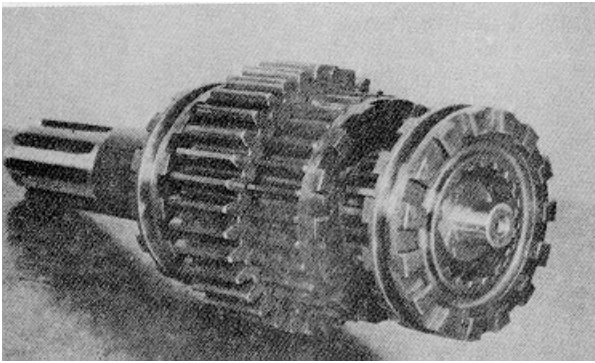

Figure 9B-68. Installing Shift Collar
6. Assemble an internal spline thrust washer on the rear of the mainshaft. Place the 1st speed gear (Lo-Lo) on the rear of the mainshaft, Figure 9B-69. The clutch teeth of the 1st gear facing the 1st-2nd speed shift collar.